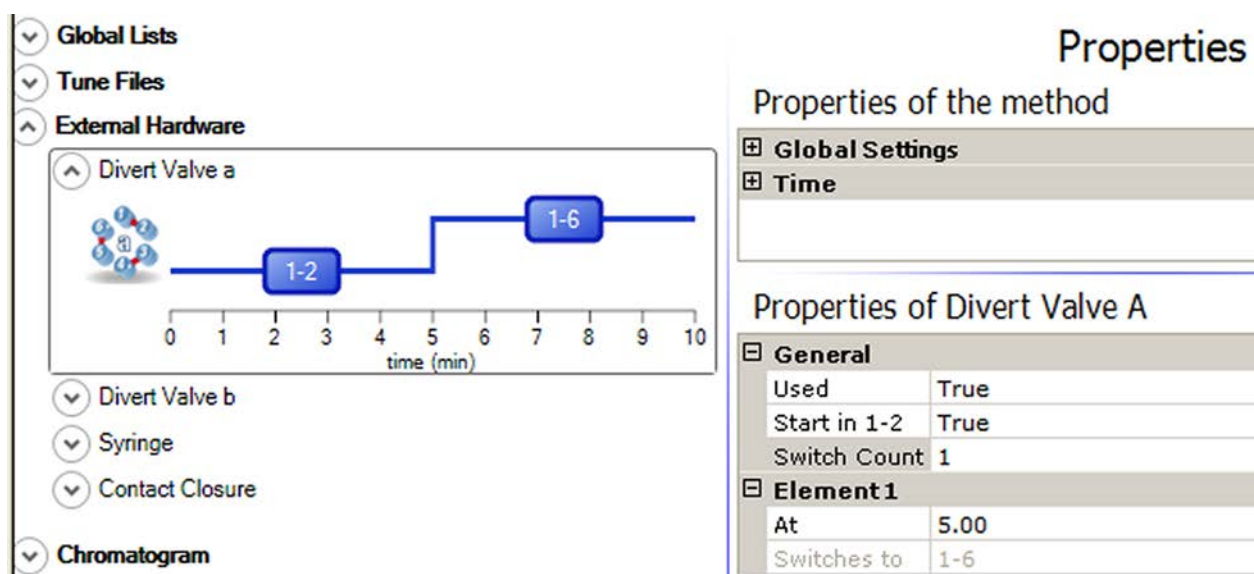

Figure 3-10. Properties of a switching valve that is used
The Divert Valve items show graphic representations of the activities of the optional switching valves during the active acquisition. See Figure 3-10. The normal LC flow through the switching valve (Position 1-2) is to the mass spectrometer. When the switching valve is activated (Position 1-6), LC flow is diverted to waste.
- Right-click in the pane to display the shortcut menu. Choose **Activate**. The gray color  changes to the blue color . See Figure 3-10.
A step in the line of the graphic representation indicates the new switch point. See Figure 3-10.